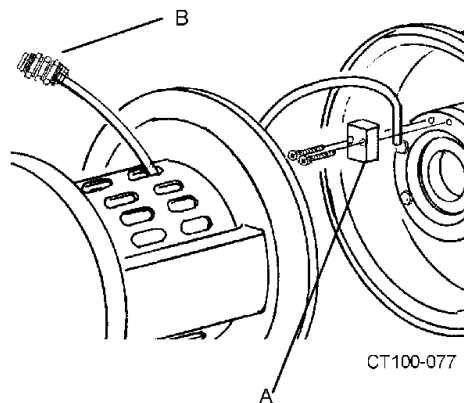

Figure 11 - Cascade System Installation
When this option is ordered, a fitting assembly (Part Number 60112) (See Figure 11 item B) is
- The water cascade block (See Figure 11 item A) must be above the seal on the assembled backplate to flow water onto the seal face.